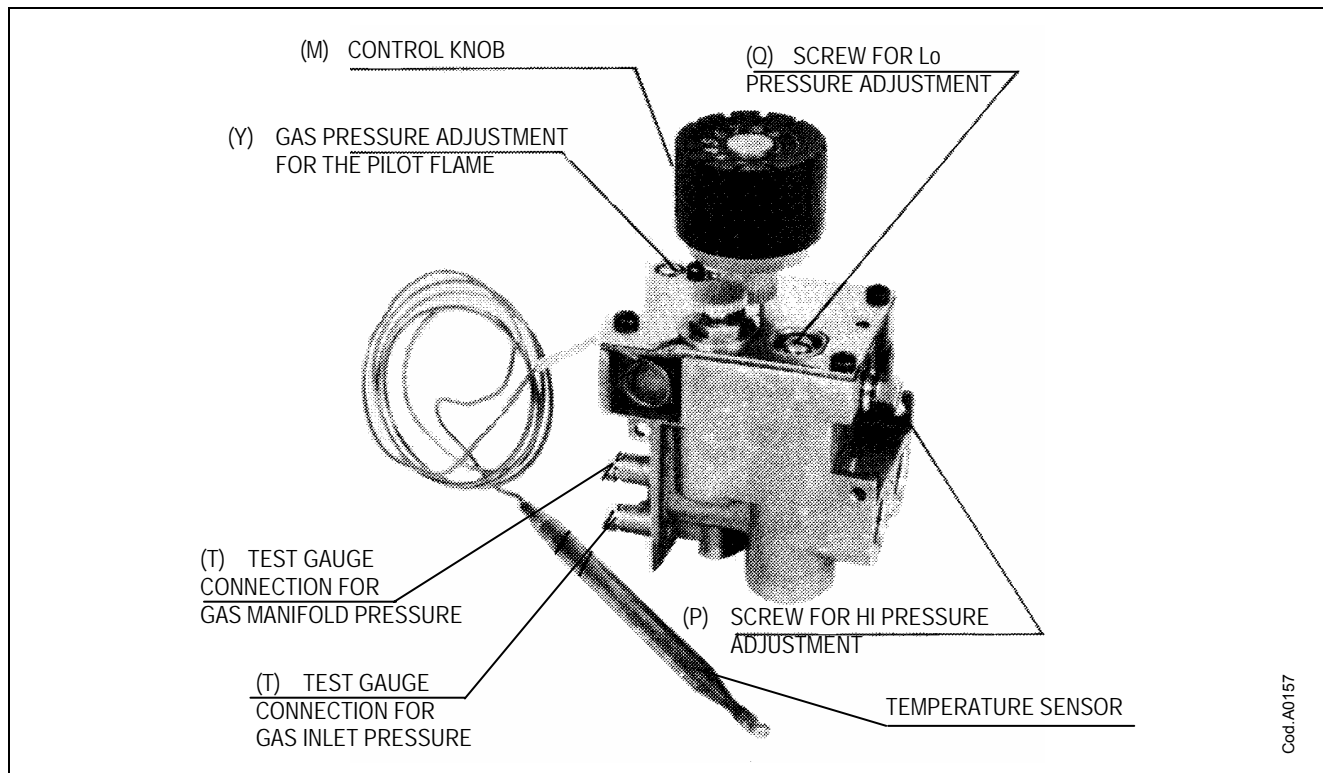

Figura 10 – VALVOLA EUROSIT
The wall gas convector TS2000 is supplied to operate with natural gas and is equipped with an LPG conversion kit. During the final quality tests in the factory each unit is set to operate with natural gas. The gas valve is produced by SIT model EUROSIT (see Figura 10). Subsequent adjustments can be carried out on the spot, following these instructions.
1. Connect a pressure gauge to outlet pressure (T) placed on the valve (see Figura 10).
3. Regulate the pressure to the burner by means of the screw for hi pressure adjustment (P) in clockwise sense to increase it and in counterclockwise to decrease it, and set the pressure at the requested value.